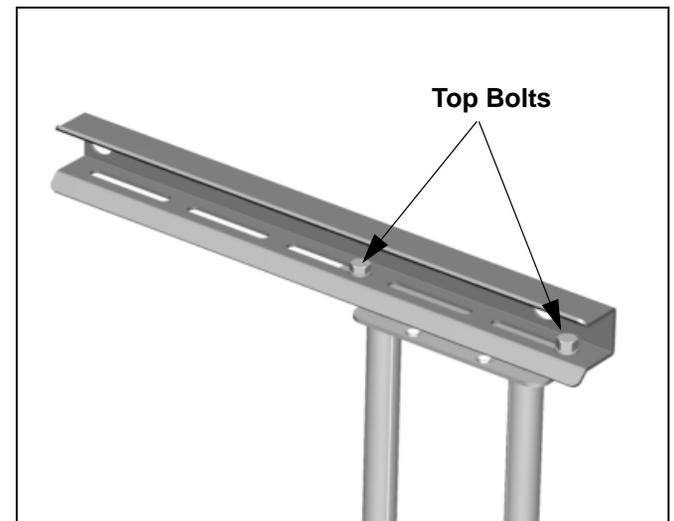

Figure 18: Adjust Swing Arm- Right Of Center
- For right of center, see Figure 18.
5. Install four bolts (two on the top and two on the bottom) to secure the swing arm assembly to the top and bottom mounting brackets (See Figure 18:).